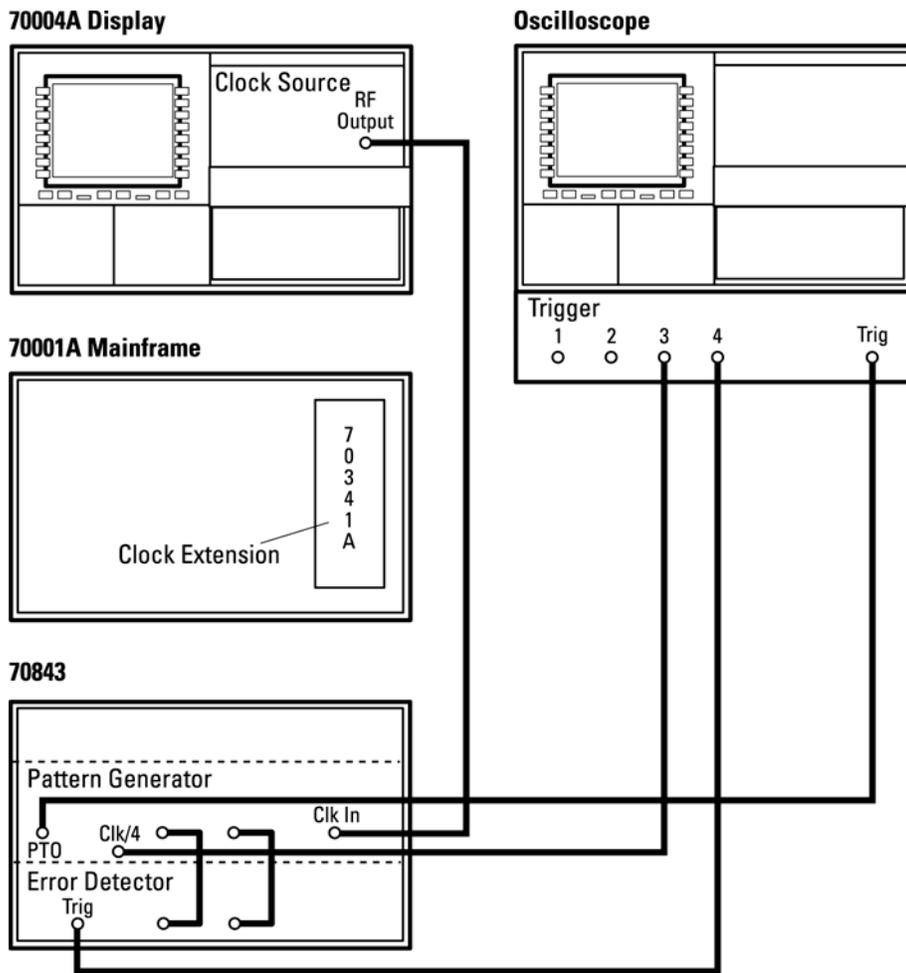

Figure 11-15
1. With the equipment set up as in Figure 11-15, select a fixed error rate of $1E-3$.
Configure the equipment as in Figure 11-15.